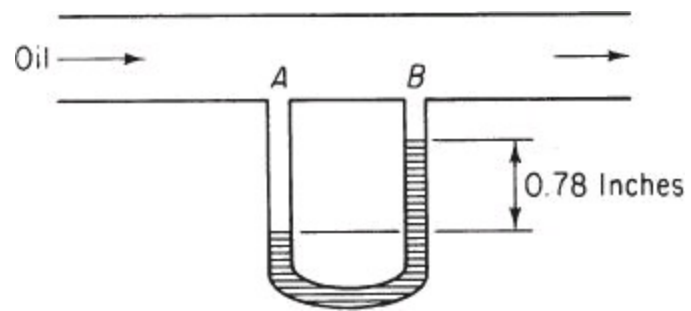

Figure P2.11.9
*****2.11.9.** Examine Figure P2.11.9. Oil (density = 0.91 g/cm^3) flows in a pipe, and the flow rate is measured via a mercury (density = 13.546 g/cm^3) manometer. If the difference in height of the two legs of the manometer is 0.78 in., what is the corresponding pressure difference between points A and B in mm Hg? At which point, A or B, is the pressure higher? The temperature is 60°F .